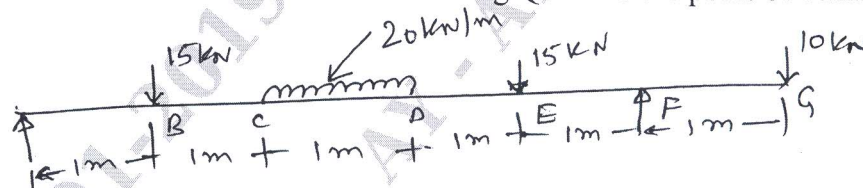

Fig.Q6
- 6 Draw the SFD and BMD for the beam shown in Fig.Q6. Find the point of contraflexure.